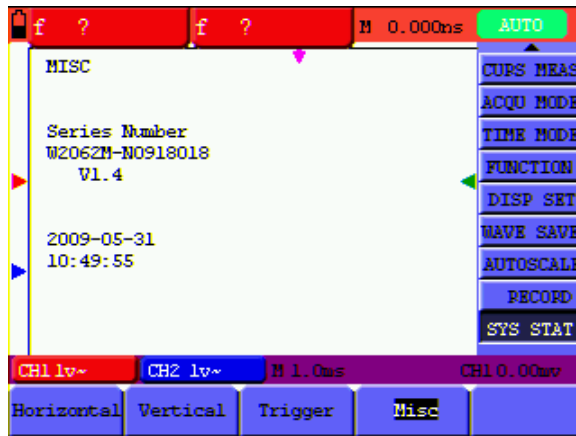

Fig.55
3. Press **F4** key and select **Misc** to display the system time ,see Fig.55.